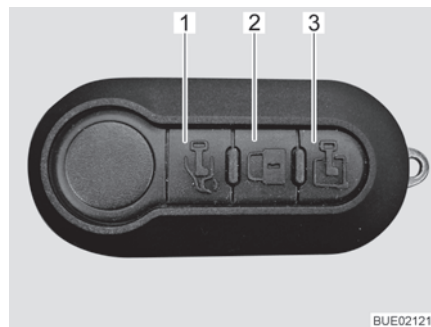

Fig. 33 Multifunctional remote control (3 buttons)
- Press the  button (Fig. 33,1) once briefly. The driver's door is unlocked.
- Press the  button (Fig. 33,3) once briefly. The conversion door is unlocked.
- Press the  button (Fig. 33,2) once briefly. All doors have been locked.